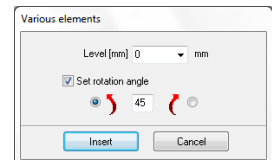

Fig. 250 – Various elements dialog box
- in the **Various elements** dialog set the insertion level of the model (Fig. 250);